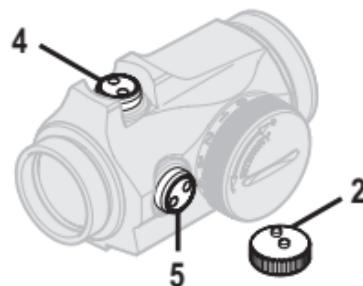

Fig. 3 Adjustment cap
- d. The Adjustment Cap (2) or the Tool (13A) must be used to turn the Adjustment screws. Place the knobs on the Adjustment cap (2) into the recesses on the Adjustment screws (4) (5). See Fig. 3.